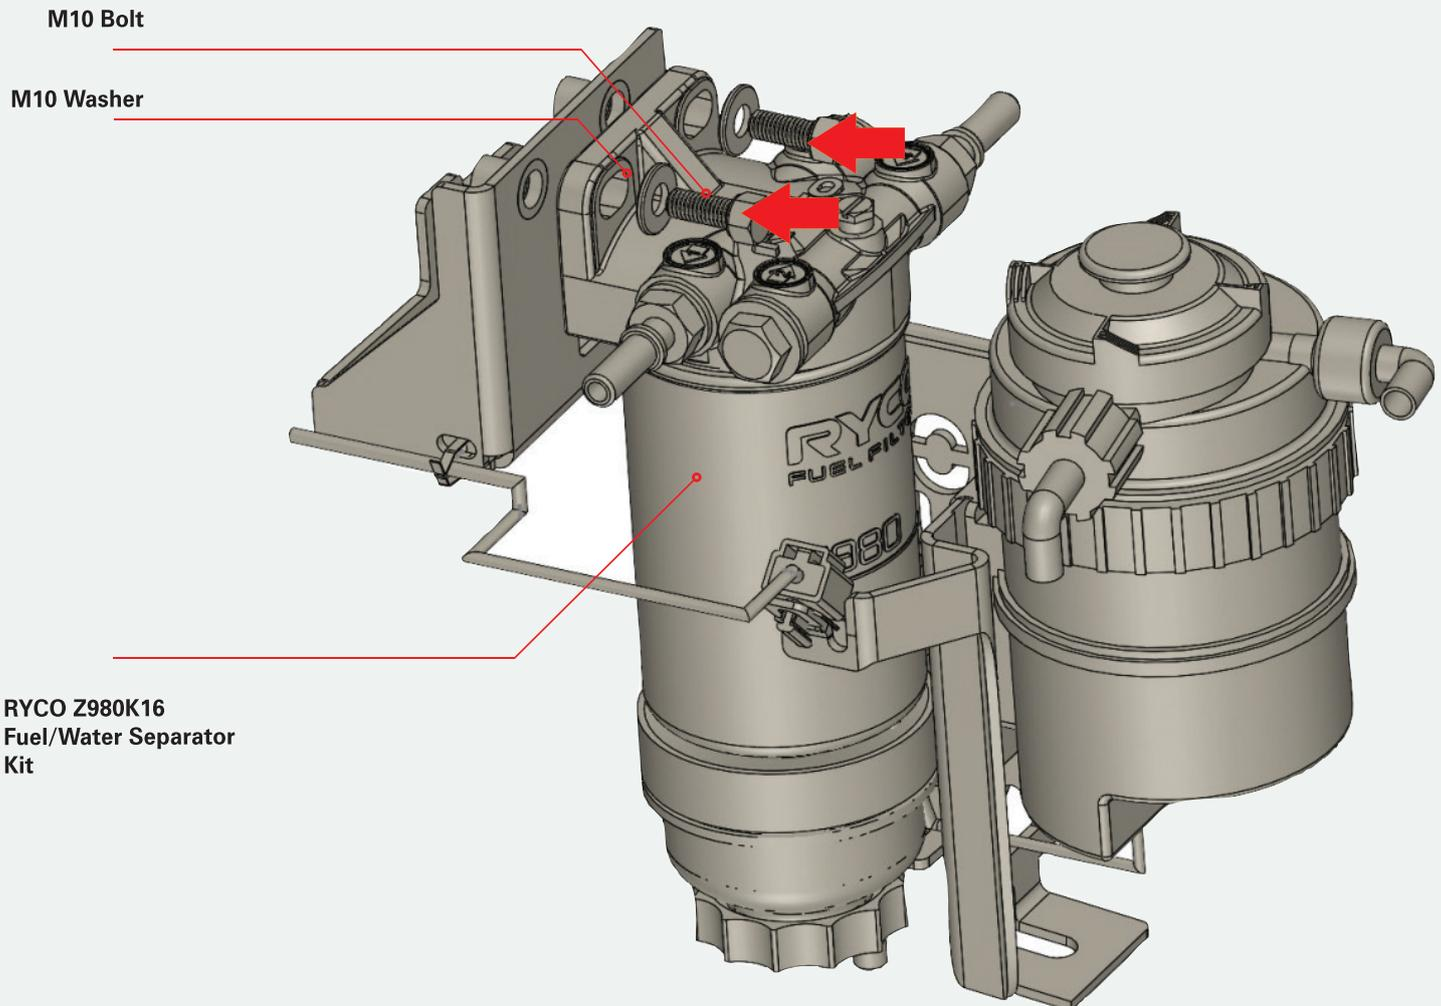

FIGURE 8
- 5 Using the M10 Bolts and Washers supplied in the Ryco Z980K16 fuel water separator kit, attach the Z980K16 to the FB9817FC bracket as shown in FIG. 8.